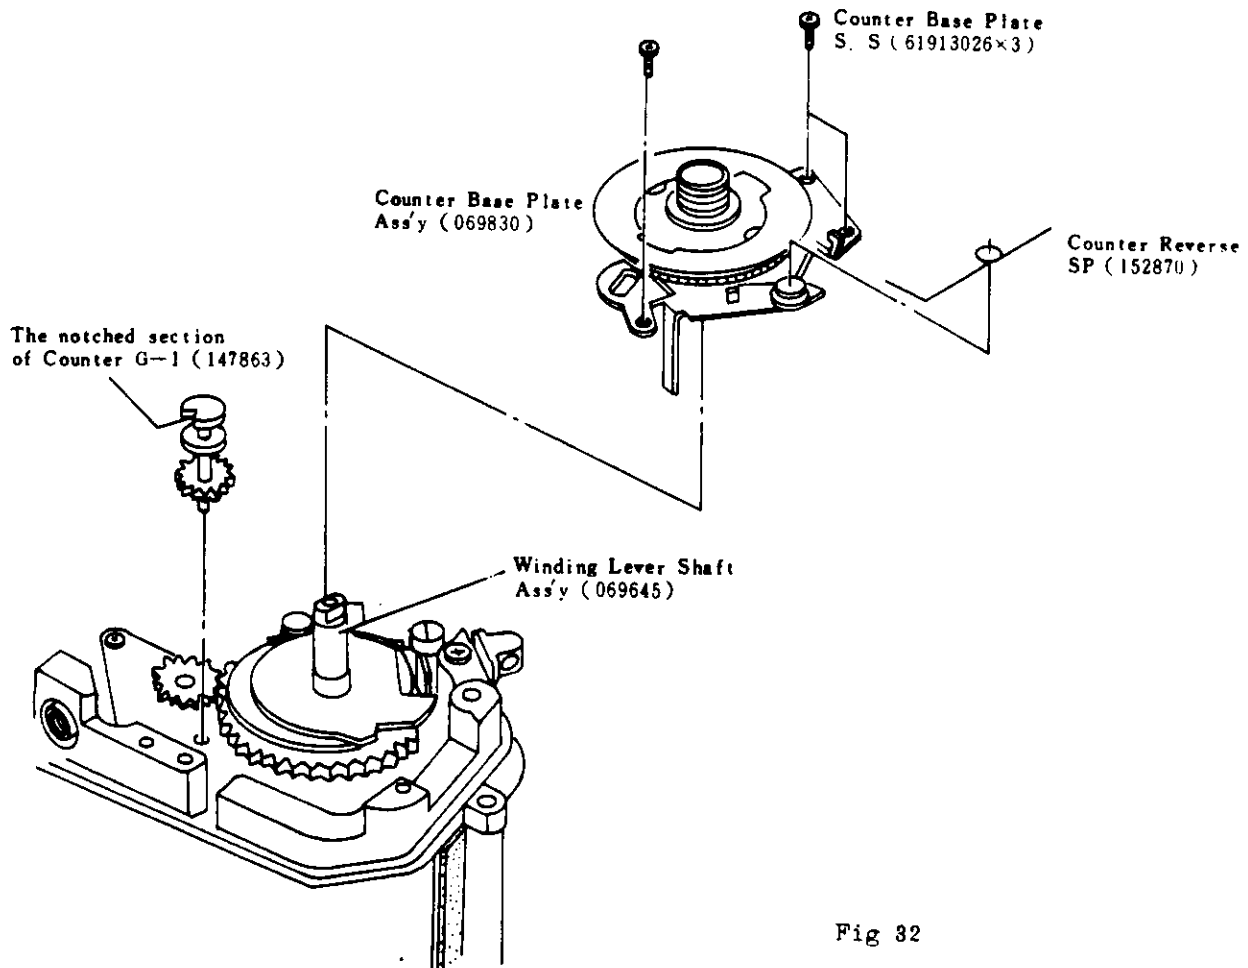

Fig 32
- c) Install and position the notched section of Counter G-1 (147863) opposite to the Winding Lever Shaft as shown in (Fig 32).